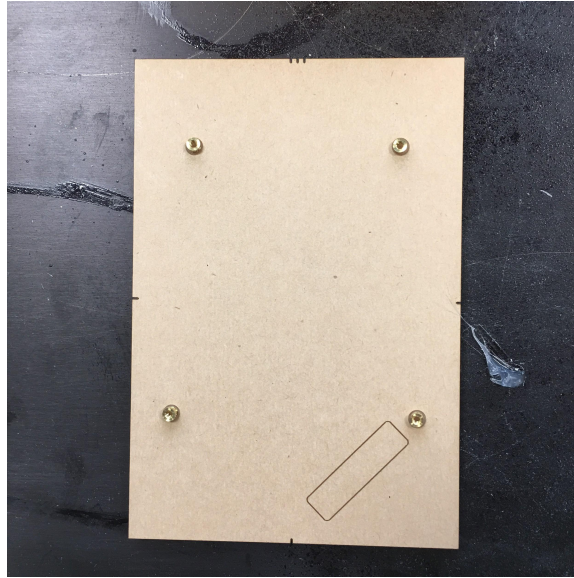

Figure 27: Heat-sets inserted into the pockets of the acrylic window
2. Place heat-sets into the pockets with their smaller diameter side down (Fig. 27).